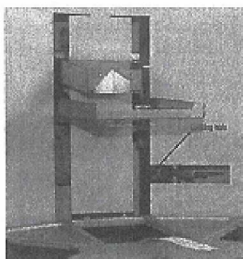
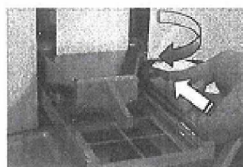

Figure 29 Location of the locking hole
Figure 30 Fitting the transport lock of the tip comb holder
2. Insert the transport lock screw of the tip comb holder with transport lock tag first by adjusting the screw into the lock position so that both the holes are opposite each other and aligned with the thread in the chassis (Figure 29). Note that one of the holes is inside the instrument and not so visible. Then fasten the screw by turning it firmly clockwise (Figure 30).